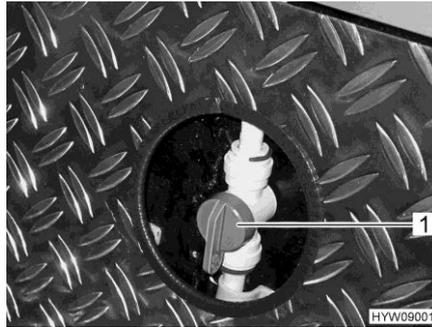

Fig. 171 Inlet valves (rear garage heating)
- Adjust the handle (Fig. 171,1) on the inlet valve for the rear garage heating so that it is parallel to the heating pipe. The rear garage heating is now working at maximum power.
- Set the handle (Fig. 171,1) on the inlet valve for the rear garage heating to the desired position. This enables the hot water distribution to the rear garage to be continuously adjusted.
- Set the handle (Fig. 171,1) on the inlet valve for the rear garage heating so that it is horizontal to the heating pipe. The rear garage heating is now switched off.